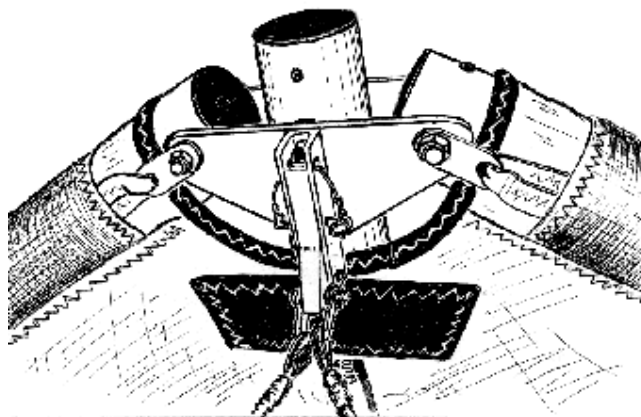

Fig. 19
2.2.13. Put the glider on the A-frame. Secure the nose catch of the bottom wires on the nose junction channel using the clevis pin and the safety ring (Fig. 19).